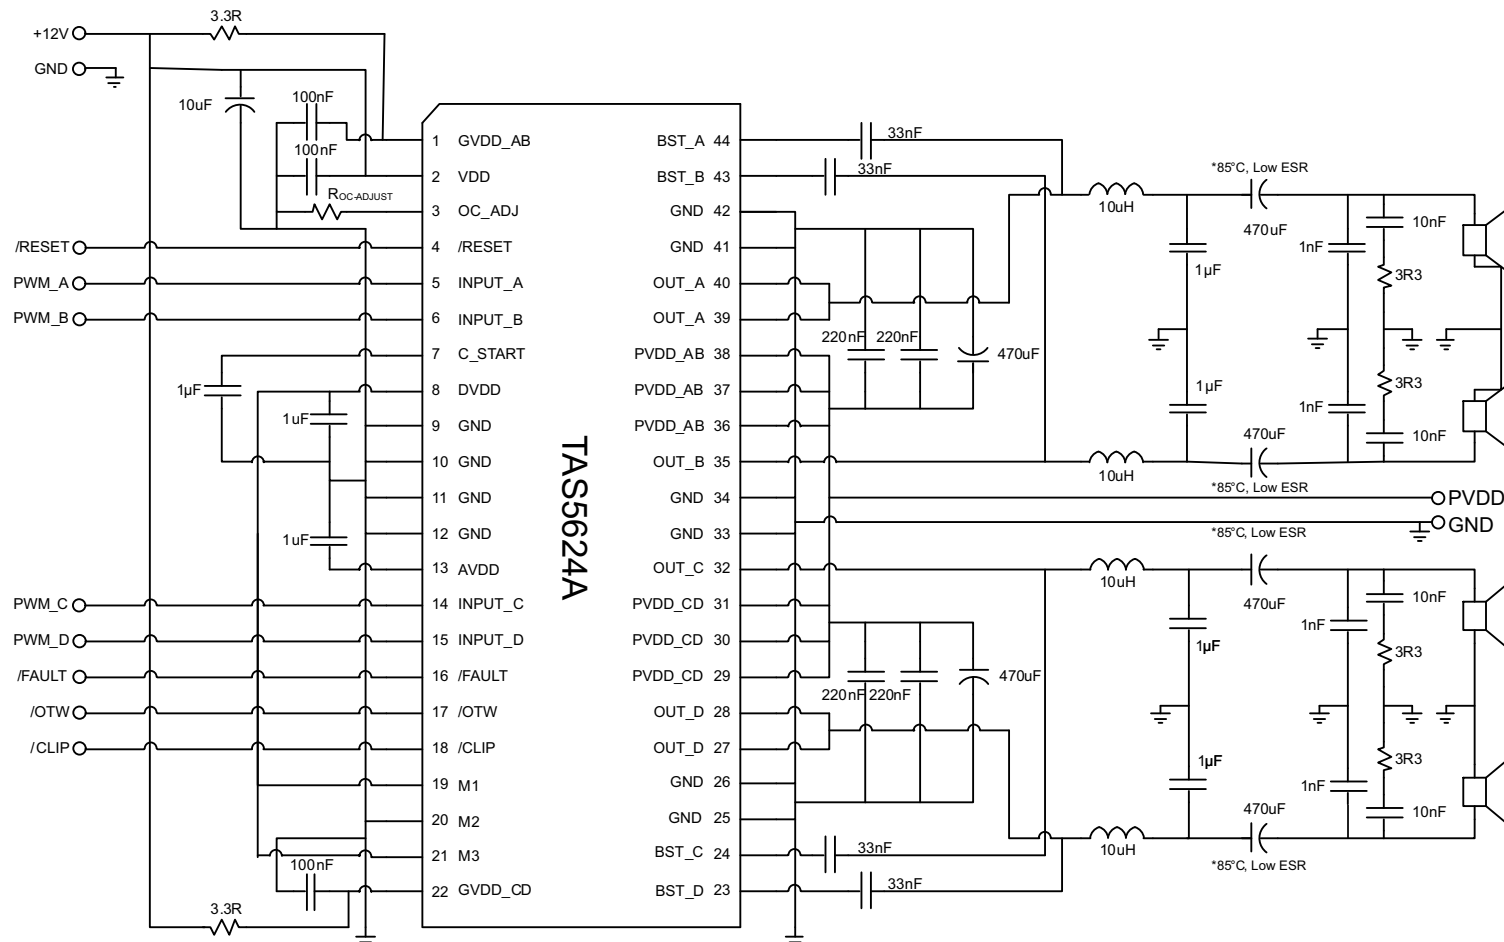

Figure 19. Typical (1N) SE Application
See Figure 19 for application schematic. In this application, four single-ended PWM inputs are used with AD modulation from the PWM modulator such as the TAS5558. AD modulation scheme is defined as PWM(+) is opposite polarity from PWM(-). The single-ended (SE) output configuration is often used to drive four independent channels in one TAS5622A device.
*Design Requirements* lists the design parameters of Figure 19.